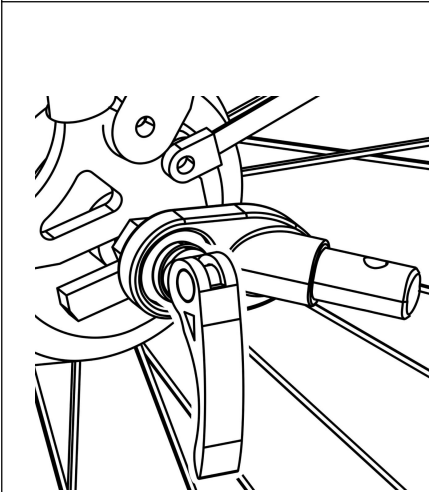

Figure 9
1. Quick-release Axle: Remove the quick-release from the left side of bike's rear axle. Install the hitch between the quick-release and frame. Tighten the quick-release following the bike manufacturer's manual. Hitch can remain on the bike when the trailer is removed (Figure 9).